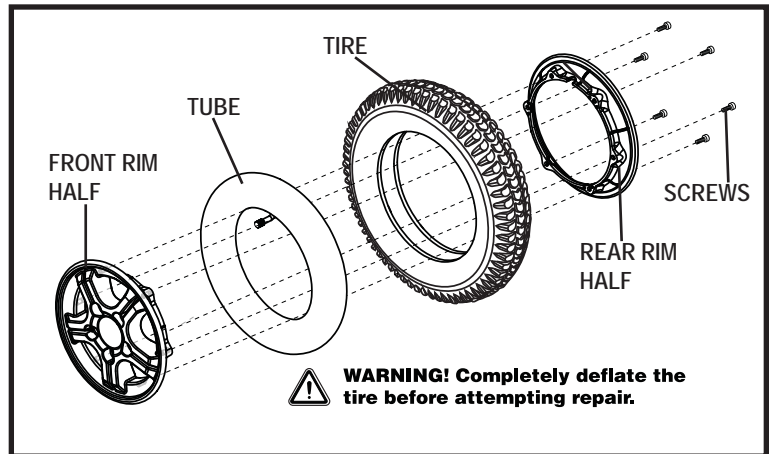

Figure 20. Quantum 600Z Series Drive Wheel Disassembled
6. Remove the screws and separate the front and rear rim. **See figure 20.**
10. Reinstall the five (5) lug nuts onto the wheel hub and tighten.